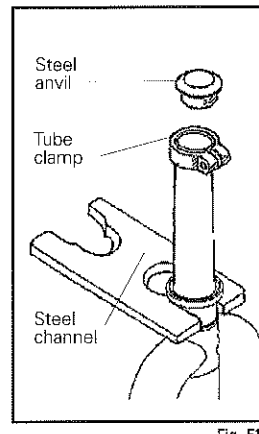

Fig. 51
1. Clamp or bolt the **steel channel** to a bench with the flanges facing up and the large opening overhanging the edge of the table (Fig. 51).